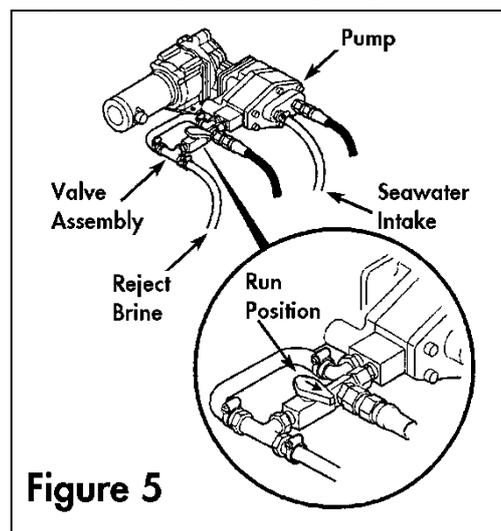

Figure 5
- ☑ Make sure the clean/run valve lever on the pump is in the "run" position (See **Figure 5**).